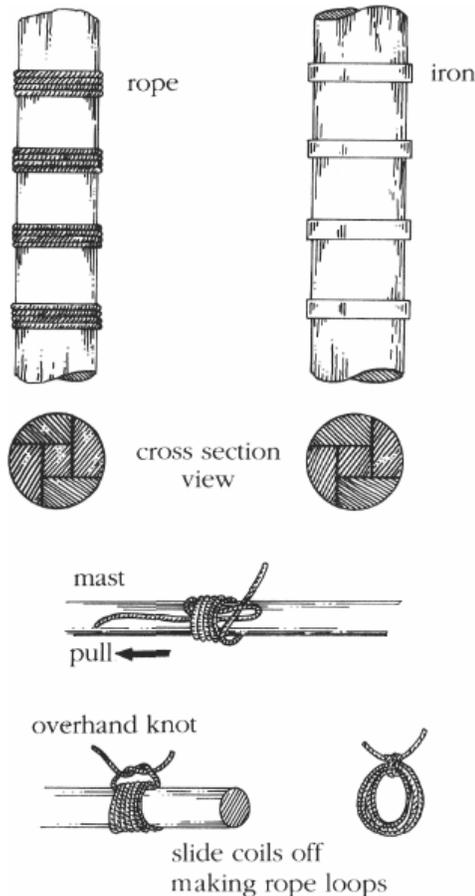

FIGURE 35. Lower mast sections.
**THE LOWER MAST.** The lower mast is the heaviest, and in most cases it was built by *woolding* it — lashing together longitudinal sections with either rope or iron hoops (depending on the era in which the ship was built), as you can see in Figure 35. Of course, the masts on your model need not be made in sections like
The bottom part of Figure 35 shows the best way I know to make rope loops: You can use the loops as wooldings on the mast or — with variations — loops